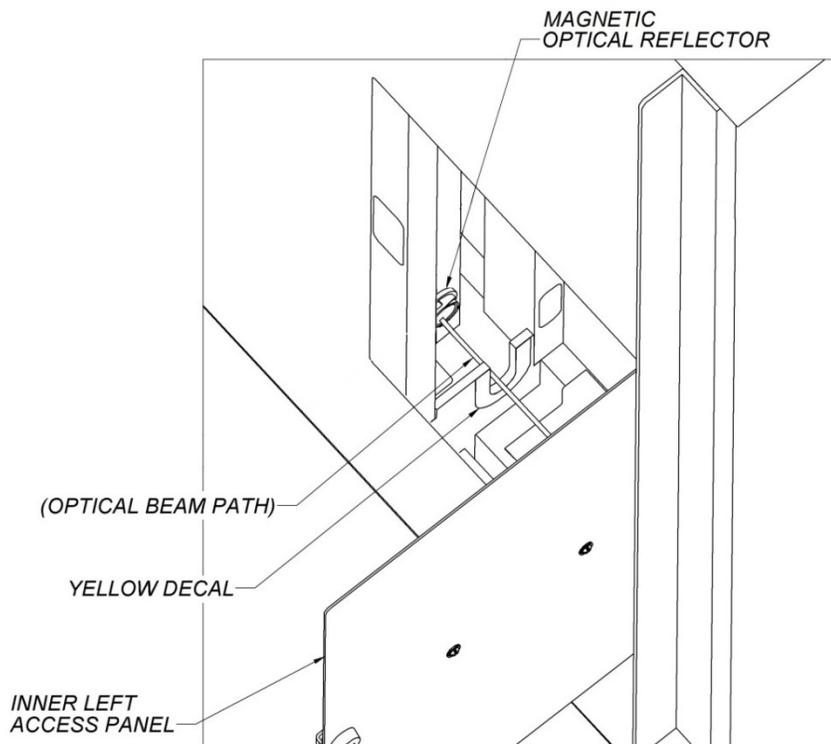

Figure 3
7. Use the adjustment tool to remove the magnetic optical reflector from the vertical guide rail. To do so, place the adjustment tool on the reflector, turn it clockwise a quarter turn to engage the reflector, and then pull the reflector off the guide rail. Reserve the reflector in the adjustment tool until Step 11. The reflector is located near the bottom of the cabinet and is marked by a yellow decal. See Figure 3.